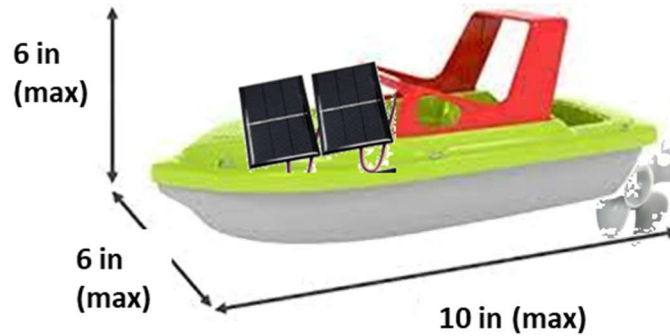

Figure 4 Solar boat dimension limits
A. Dimensions - The maximum length, width, and height of the assembled boat shall be 10 inches, 6 inches and 6 inches respectively. Figure 4